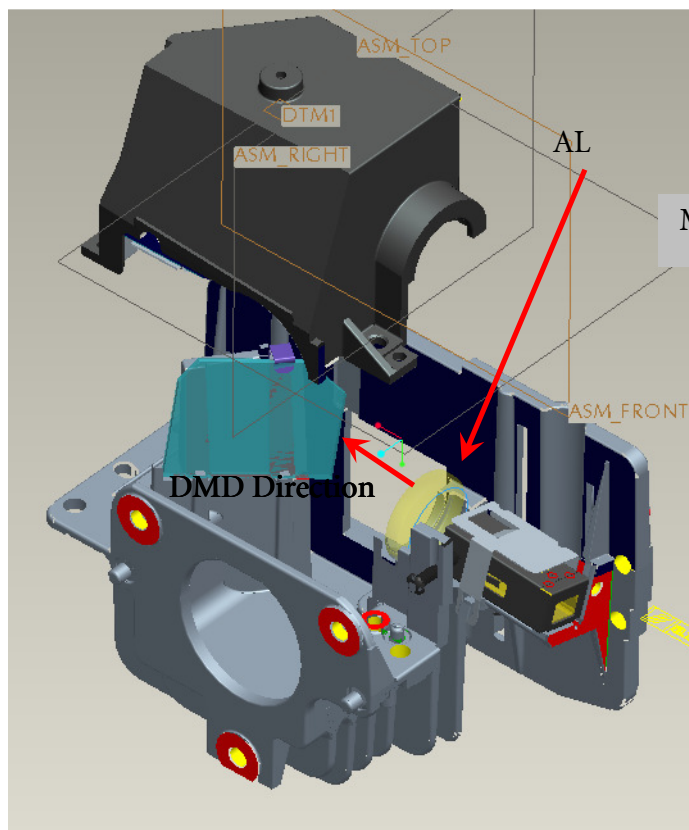

Fig. 4-1
4.1 Placed "AL" on the "HSG DMD". The "raised surface" of "AL" shall toward "DMD direction" (Fig. 4-1).